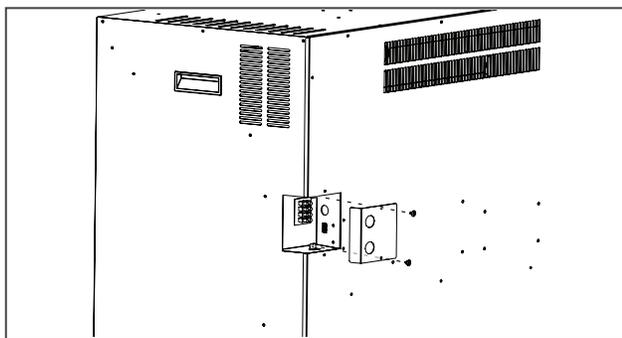

Fig. 1
1. Locate the desired 2 conductor or 3 conductor wire cable to the right side of the enclosure for the hard-wiring installation based on the desired 120 V or 240 V heat output capability (**Fig.1**).